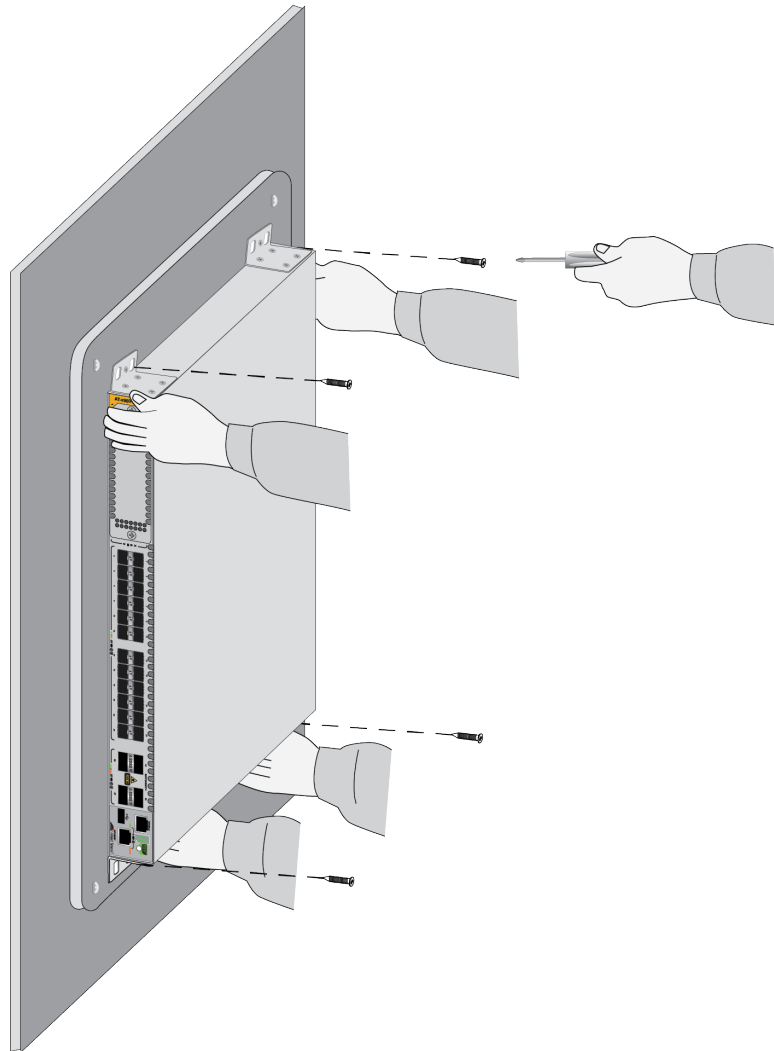

Figure 76. Attaching the Switch to the Plywood Base
3. After attaching the brackets to the side of the switch, have two people hold the switch on the plywood base on the wall while you secure it with the four provided screws. Refer to Figure 76 on page 127.